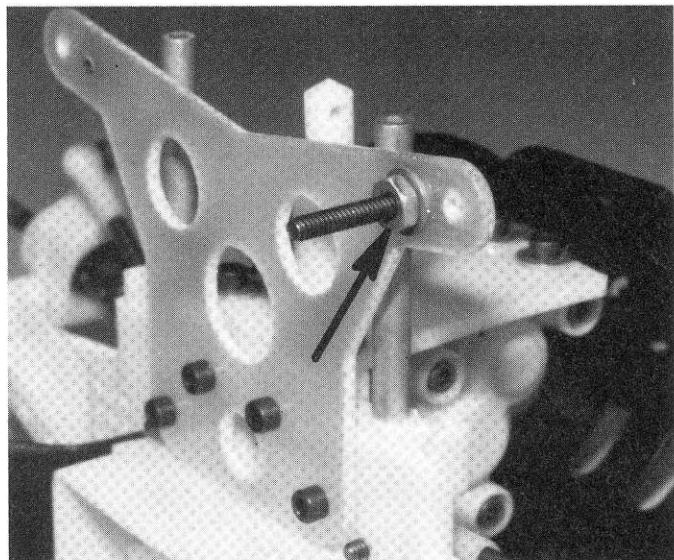

Fig. 114
□ **Fig. 114** It's time to install the rear shocks. From Bag #6-9, install one of the Allen screws through the fiberglass strut from the rear. Then, install a plain nut and an aluminum washer next. Slip a bushing in the shock, with the flange to rear, and slip the shock on the screw.